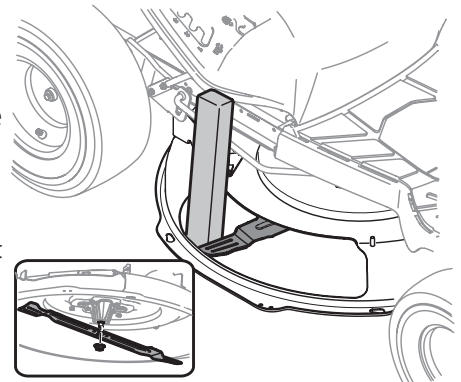

Figure 23
2. Using a block of wood or 2 x 4, insert it into the deck opening and rotate the blade around until it wedges the wood between the deck opening and the cutting blade, as shown in Figure 23.